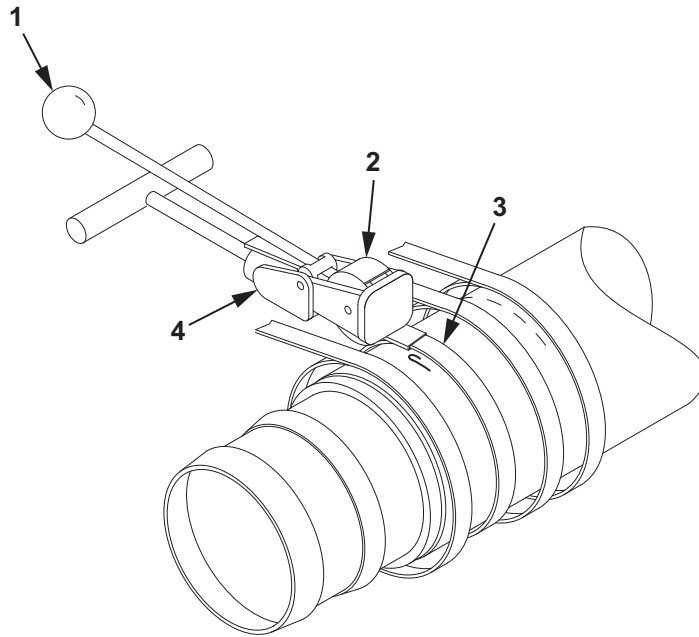

Figure 29. Hose Assembly Repair.
27. While holding the clamping tool handle (Figure 29, Item 1) in the down position, strike the center punch anvil (Figure 29, Item 2) three to four times with a hammer.
28. While still holding the clamping tool handle (Figure 29, Item 1) in the down position, raise the entire clamping tool (Figure 29, Item 4) up to shear the tail of the band off of the clamp (Figure 29, Item 3).
29. Using hammer, tap the edge of the distorted clamp (Figure 29, Item 3) down to a level configuration.